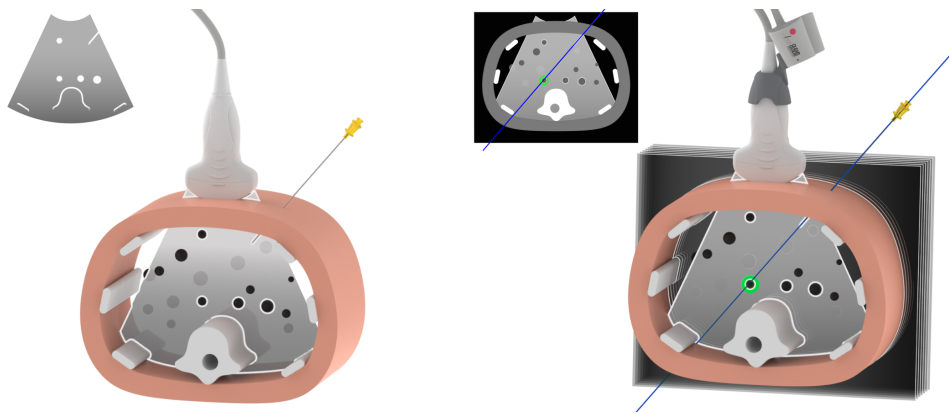

Figure 1: US-guided intervention (left);
The **CLEAR GUIDE SCENERGY** is software that provides image fusion for 3D volume modalities (such as computed tomography (CT) and magnetic resonance (MR), depending on system version, feature license, and regulatory availability) and ultrasound (US) (Figure 1).